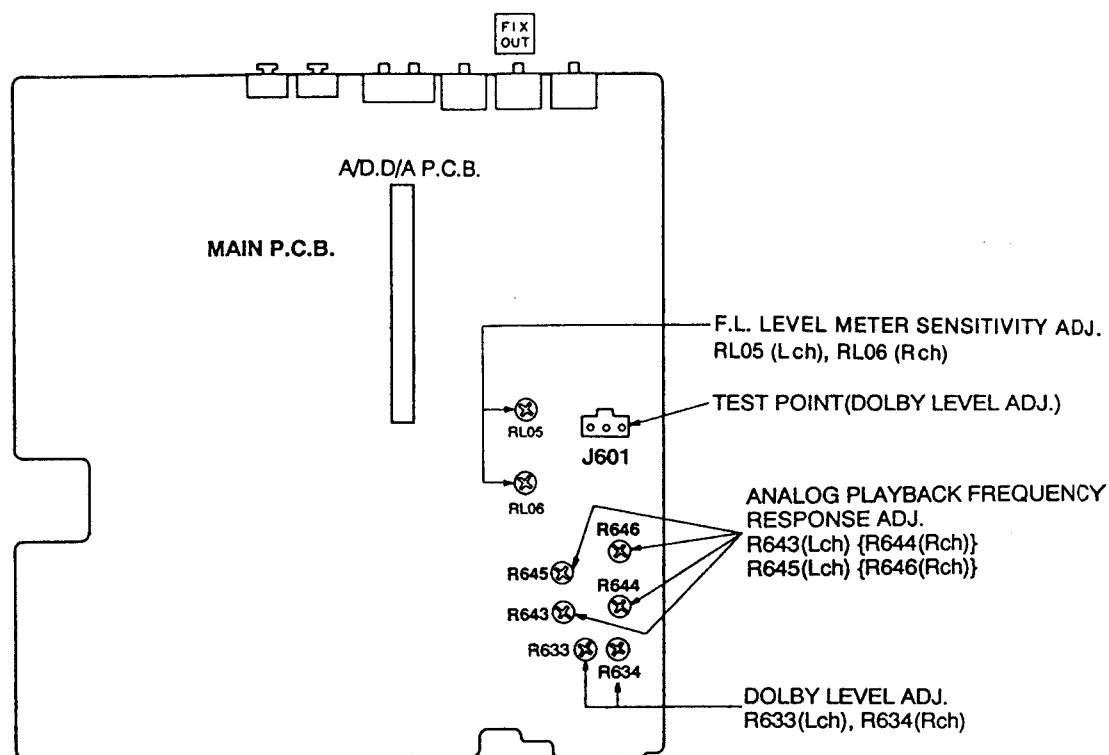

Fig. 25
- (1) While playing back the Dolby level tape (RFKZ0038), adjust the voltage at test point J601 to 33mV using R633 (Lch) and R634 (Rch) (See Fig. 25).
(See Fig. 25)
- (1) Load a **DCC Blank tape (RFKZ0033)** in the unit under test and place it in **REC PAUSE** mode.
- (2) Load the **CD Test disc (SZZP1054C)** in the CD player and play the second band (1 kHz, 0dB, L+R signal).
- (3) Adjust potentiometers RL05 (Lch) and RL06 (Rch) so the DCC unit's FL level meters indicate 0 to –2dB (See Fig. 25).